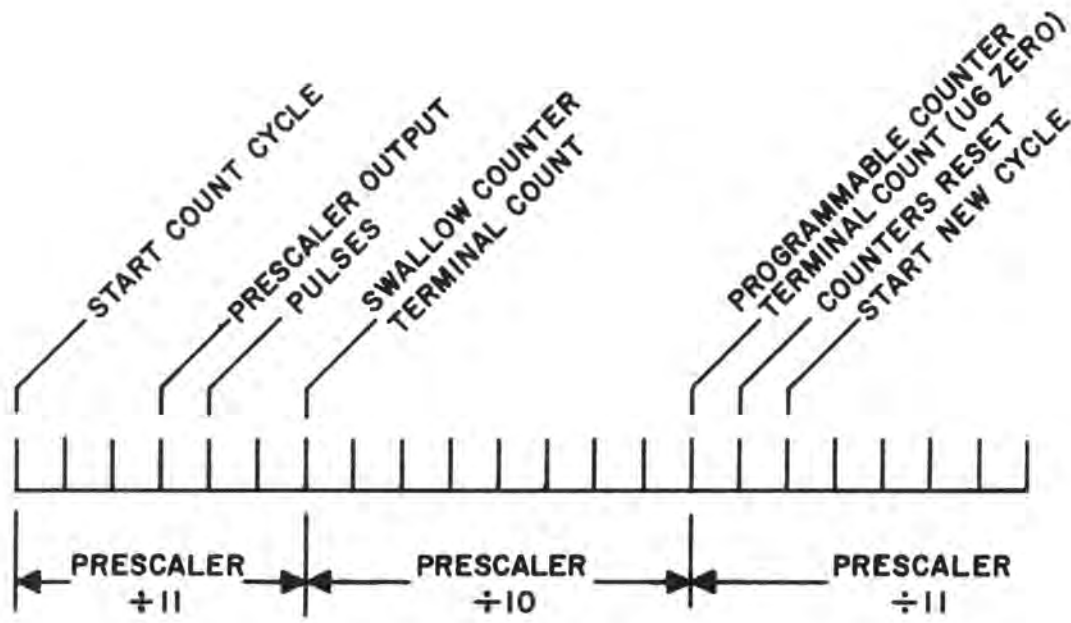

Figure 3-18. 1st LO Counting Cycle
Figure 3-18 depicts the 1st counting cycle. The prescaler divides by 11 until the swallow counter reaches terminal count. This causes zero detector U3A to go high, setting the prescaler to 10 and disabling the swallow counter. The programmable counter continues to count down until U5 reaches zero. When this occurs, the U6 terminal count (TC) goes low on the next clock pulse (10 VCO output pulses), resetting the counters to the preset number on their inputs. Zero detector U3A is also reset, enabling the swallow counter and setting the prescaler to 11.